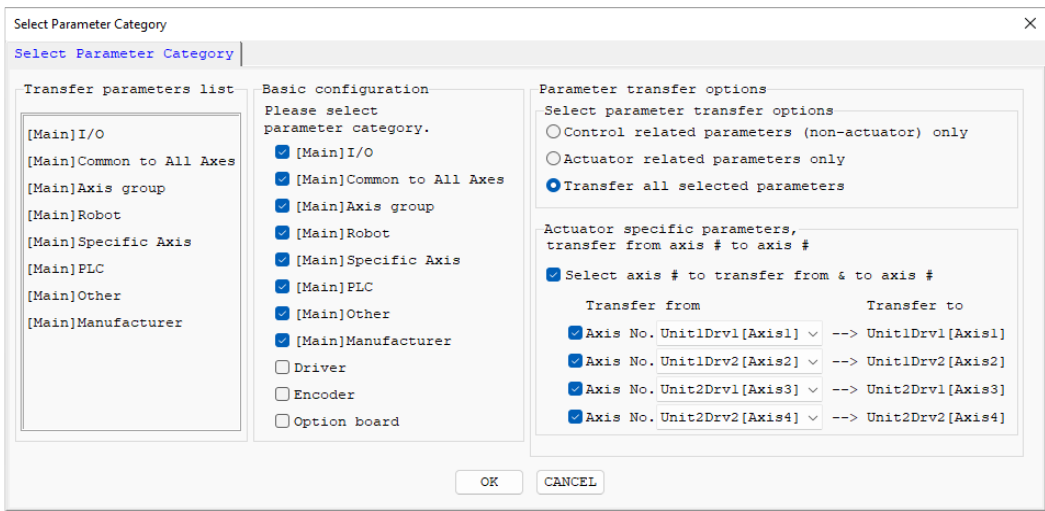

Fig. 8.6 Select Parameter Category window (XSEL2-T)
- (1) Select "File" → "Open" from the menu or click **Open File** and select the parameter file you want to transfer to the controller. Load the file into the PC software and open the parameter edit window.
- (2) Click **Transfer to Controller** in the parameter edit window.
- (3) The Select Parameter Category window (Fig. 8.6) will be displayed.